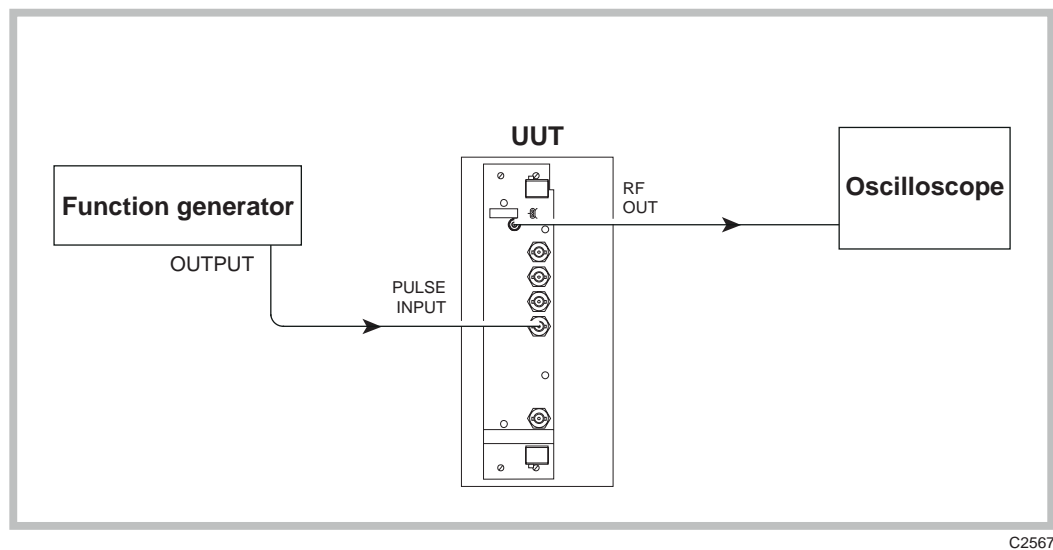

Fig. 5-12 Pulse modulation rise and fall time test set-up
- (1) Connect the test equipment as shown in Fig. 5-12.
- (2) On the UUT set: